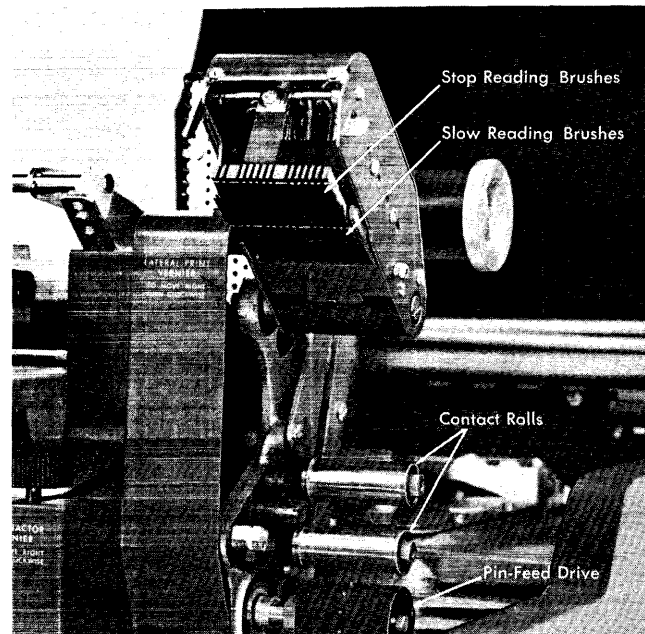

Figure 24. Carriage Brushes
With a dual-speed carriage, two sets of reading brushes (Figure 24) are used to sense holes in the carriage control tape. One set is called the *stop* brushes, the other the *slow* brushes. Seven spaces, as measured by the control tape, separate the two sets. Each set contains twelve brushes to read punches in twelve columns in the carriage tape.
4. Holding the tape loop so that the printed captions can be read, place the tape over the pin-feed drive (see Figure 24) so that the pins engage the center drive holes. The line numbers on the tape must face the right end of the 1403.